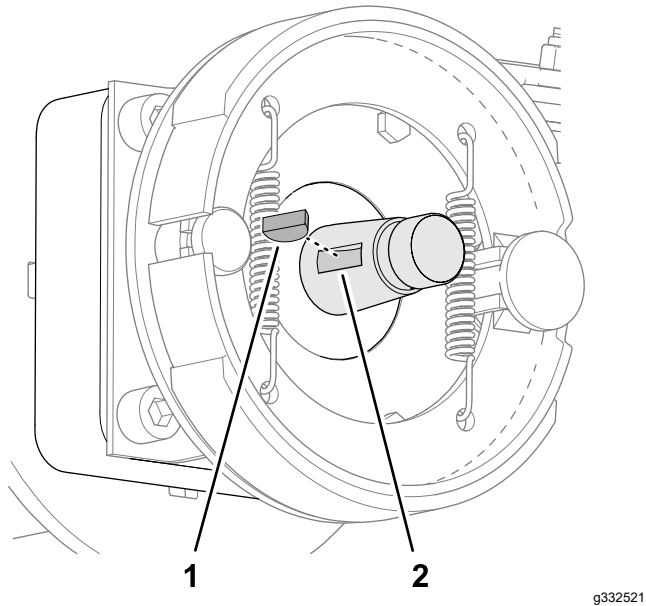

Figure 65
5. Remove woodruff key from the wheel-motor shaft (Figure 65).